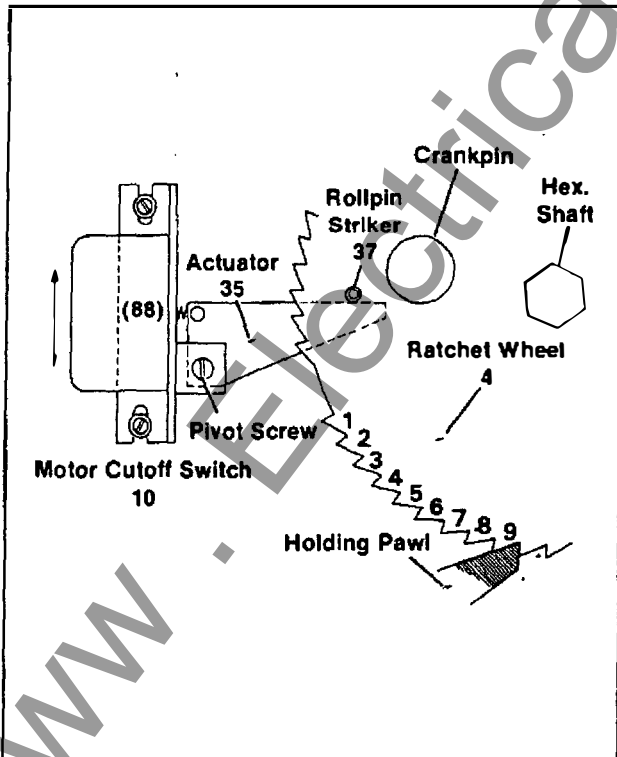

Figure 15. Motor Cutoff Switch
Motor Cutoff Switch — The 88 motor cutoff switch assembly (Fig. 15) is factory adjusted. If it should become inoperative, entire unit must be removed and inspected for contact wear. Replacement may be necessary.
Advance ratchet and cam assemblies to position shown (Fig. 15). The holding pawl must rest behind the ninth (9) tooth position on the ratchet as counted counterclockwise from "area" on ratchet periphery which lacks two teeth.